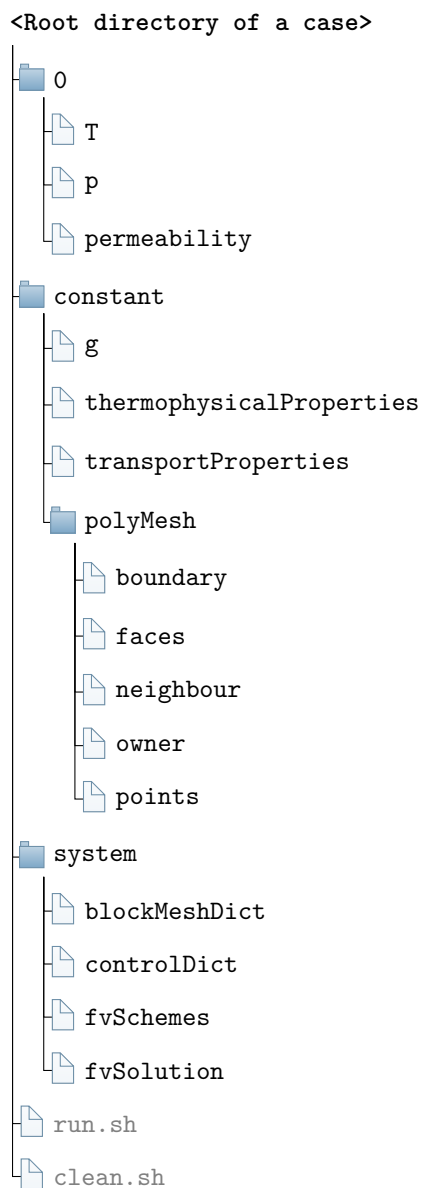

Fig. 4.5: Directory structure of a case of **HydrothermalFoam**.
A model case of **HydrothermalFoam** basically consists of **time directory** (e.g. 0 for initial state), **constant** and **system** directory (see Fig. 4.5). The sub-directory of **polyMesh** in **constant** folder consists mesh files, which are generated by meshing utility, e.g. `blockMesh`, `gmshToFoam`, `snappyHexMesh`, ..., see Section 4.1.
- **Boundary conditions** (`boundaryField`). The boundary patch name, e.g. `bottom`, is defined in mesh file of `constant/polyMesh/boundary` (see Fig. 4.5 and Section 4.1). The available boundary conditions and their usage can be found in Section 3.2.
For HydrothermalFoam, the `constant` directory always contains three files named `g`, `thermophysicalProperties`, `transportProperties` respectively, and one folder named `polyMesh` (see Fig. 4.5).
As shown in Fig. 4.5, the **system** directory contains three compulsive directory files of **controlDict**, **fvSchemes** and **fvSolution**, and optional dictionary file, e.g. **blockMeshDict** for OpenFOAM built-in meshing utility `blockMesh`.